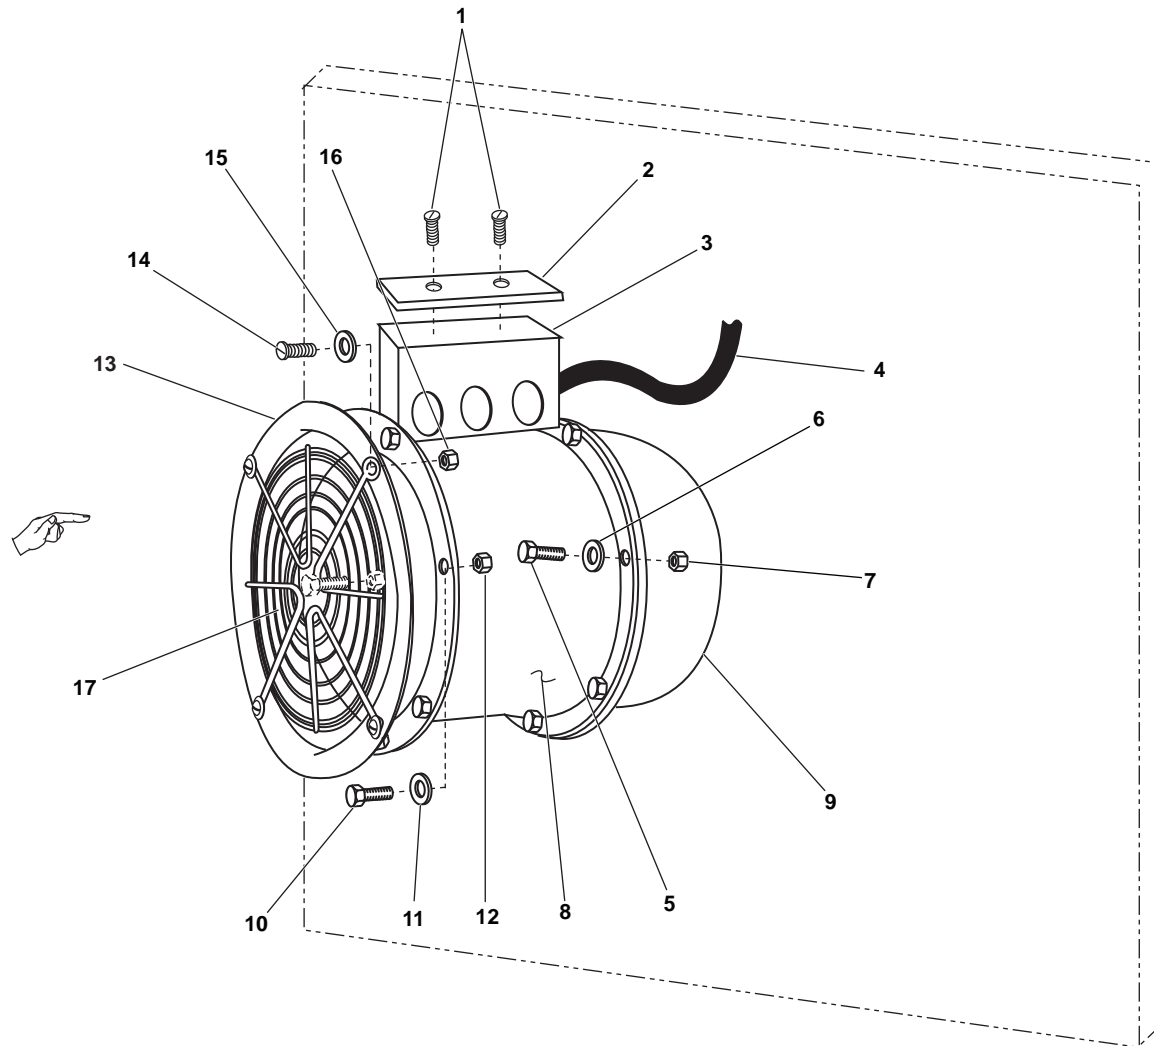

FIGURE 2-18.1. Ventilating Supply Fans #7 & 8.
2-29.1. Remove/Replace Fan, Ventilating (Supply Fans #7 & 8). (FIGURE 2-18.1)**This task covers: a. Removal b. Replacement****INITIAL SETUP**Tools
1. Remove the two screws (figure 2-18.1, item 1) from the junction box cover (figure 2-18.1, item 2).
2. Remove the junction box cover (figure 2-18.1, item 2) from the junction box (figure 2-18.1, item 3).
3. Use a multimeter to check for available voltage at the junction box (figure 2-18.1, item 3). If voltage is present, ensure that the proper circuit breaker is secured, locked out, and tagged out (FM 4-01.502, Supersedes FM 55-502). If no voltage is present, continue with the procedure.
4. Label and disconnect the wiring (figure 2-18.1, item 4) from the junction box (figure 2-18.1, item 3).
5. Remove the eight bolts (figure 2-18.1, item 5), eight flat washers (figure 2-18.1, item 6), and eight nuts (figure 2-18.1, item 7) that secure the ventilating fan (figure 2-18.1, item 8) to the mounting flange (figure 2-18.1, item 9).
6. Remove the ventilating fan (figure 2-18.1, item 8) from the mounting flange (figure 2-18.1, item 9).
7. Remove the eight bolts (figure 2-18.1, item 10), eight flat washers (figure 2-18.1, item 11), and eight nuts (figure 2-18.1, item 12) that secure the bell (figure 2-18.1, item 13) to the ventilating fan (figure 2-18.1, item 8).
8. Remove the bell (figure 2-18.1, item 13) from the ventilating fan (figure 2-18.1, item 8).
9. Remove the four screws (figure 2-18.1, item 14), four flat washers (figure 2-18.1, item 15), and the four nuts (figure 2-18.1, item 16) that secure the bell screen (figure 2-18.1, item 17) to the bell (figure 2-18.1, item 13).
10. Remove the bell screen (figure 2-18.1, item 17) from the bell (figure 2-18.1, item 13).
11. Set the bell screen (figure 2-18.1, item 17) and the bell (figure 2-18.1, item 13) aside for installation on the replacement ventilating fan (figure 2-18.1, item 8).
1. Install the bell screen (figure 2-18.1, item 17) on the bell (figure 2-18.1, item 13).
2. Install the four screws (figure 2-18.1, item 14), four flat washers (figure 2-18.1, item 15), and the four nuts (figure 2-18.1, item 16) that secure the bell screen (figure 2-18.1, item 17) to the bell (figure 2-18.1, item 13).
3. Install the bell (figure 2-18.1, item 13) on the ventilating fan (figure 2-18.1, item 8).
4. Install the eight bolts (figure 2-18.1, item 10), eight flat washers (figure 2-18.1, item 11), and eight nuts (figure 2-18.1, item 12) that secure the bell (figure 2-18.1, item 13) to the ventilating fan (figure 2-18.1, item 8).
5. Install the ventilating fan (figure 2-18.1, item 8) on the mounting flange (figure 2-18.1, item 9).
6. Install the eight bolts (figure 2-18.1, item 5), eight flat washers (figure 2-18.1, item 6), and eight nuts (figure 2-18.1, item 7) that secure the ventilating fan (figure 2-18.1, item 8) to the mounting flange (figure 2-18.1, item 9).
7. Connect the wiring (figure 2-18.1, item 4) in the junction box (figure 2-18.1, item 3) using the labels from step 4 of Removal as a guide. Remove the labels.
8. Install the junction box cover (figure 2-18.1, item 2) on the junction box (figure 2-18.1, item 3).
9. Install the two screws (figure 2-18.1, item 1) in the junction box cover (figure 2-18.1, item 2).
11. Operate the ventilating fan (figure 2-18.1, item 8) under usual conditions (TM 55-1905-223-10) and check for proper operation.
12. Return the ventilating fan (figure 2-18.1, item 8) to the desired readiness condition.